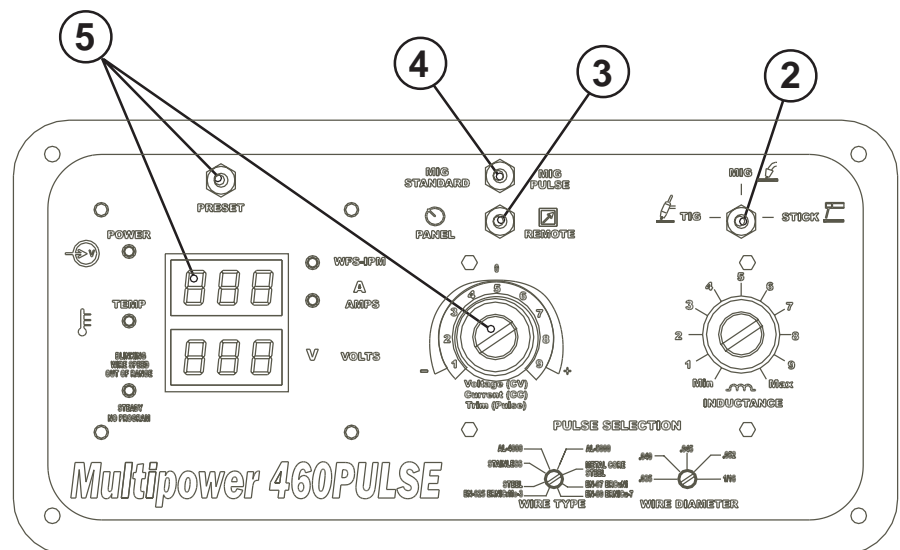

Figure 4-2 Standard Stick Setup Procedure
3. When using the provided strain relief, refer to Figure 4-2 for proper cable strip lengths. It is important to follow the cable strip guide to ensure that if the primary input cable is ever pulled from the strain relief, the input conductors will be pulled from the Terminal Block before the ground lead is pulled from the ground lug. Once stripped, thread the input and ground conductors through the large strain-relief in the rear panel of the power source. Connect the ground wire to the terminal lug located on the "A" frame support. Connect the primary power leads to terminals L1, L2, and L3 on the input power block. Secure the strain relief on the input cable.